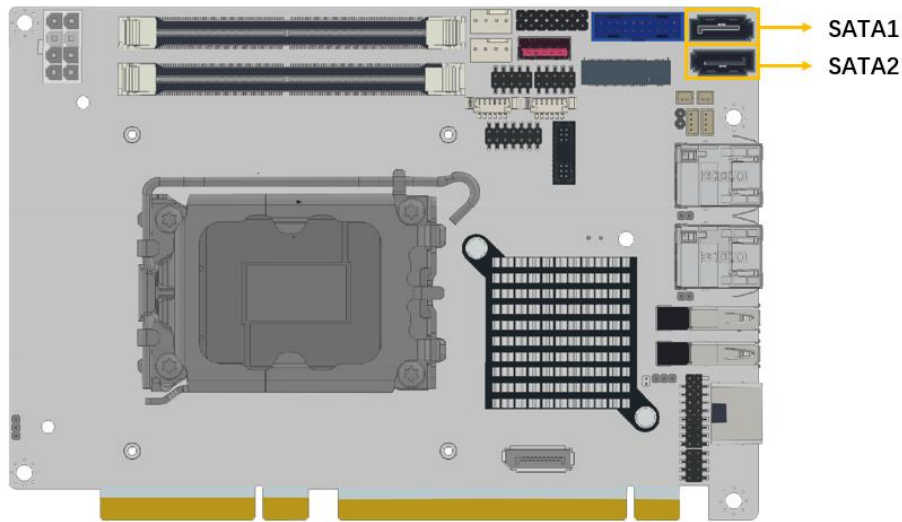

Figure 3-21: SATA 6 Gb/s Connector Locations
- CN Location:** See Figure 3-21